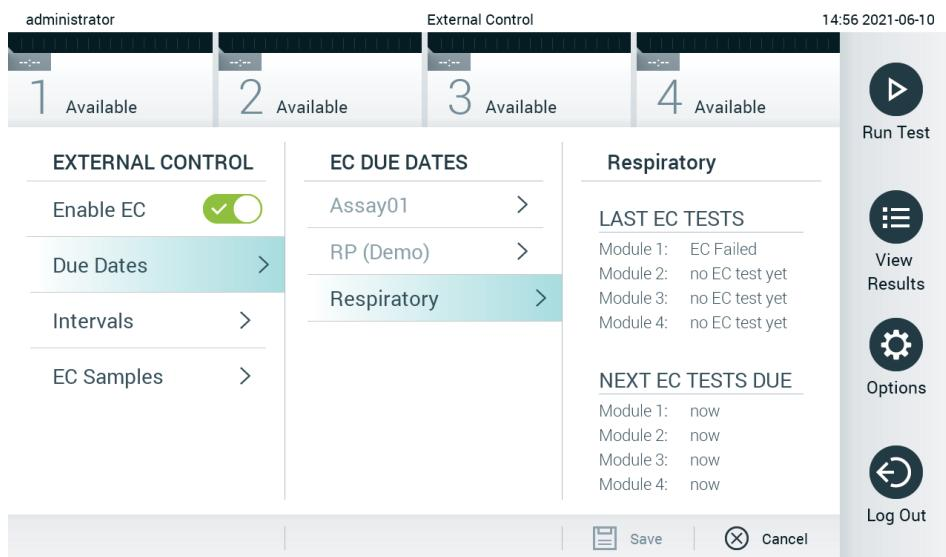

Figure 51. The External Control Due Dates screen.
3. Select **Due Dates** and then an assay from the list to see when the last External Control test was performed per assay and analytical module and when the next External Control test is due (Figure 51, next page).